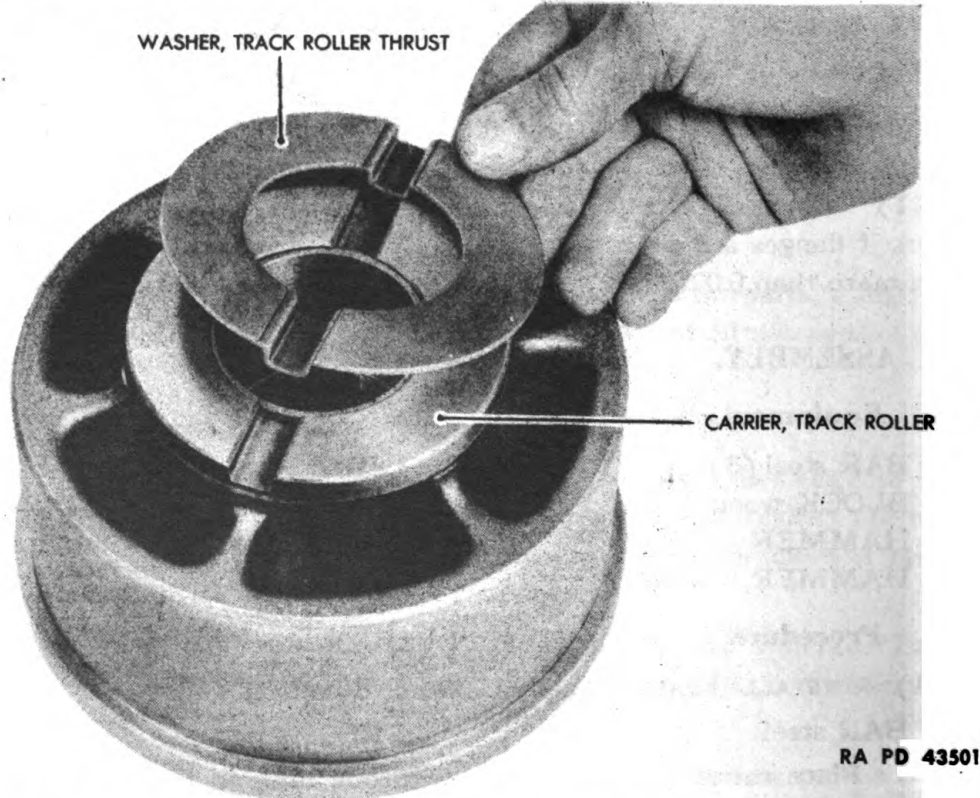

Figure 146 – Track Roller Carrier Thrust Washer Installation
- (4) **INSTALL TRACK ROLLER CARRIER THRUST WASHERS (fig. 146).**